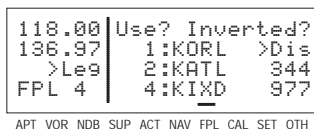

Figure 4-9
1. Use the right outer and inner knobs to select the desired flight plan page (figure 4-9).